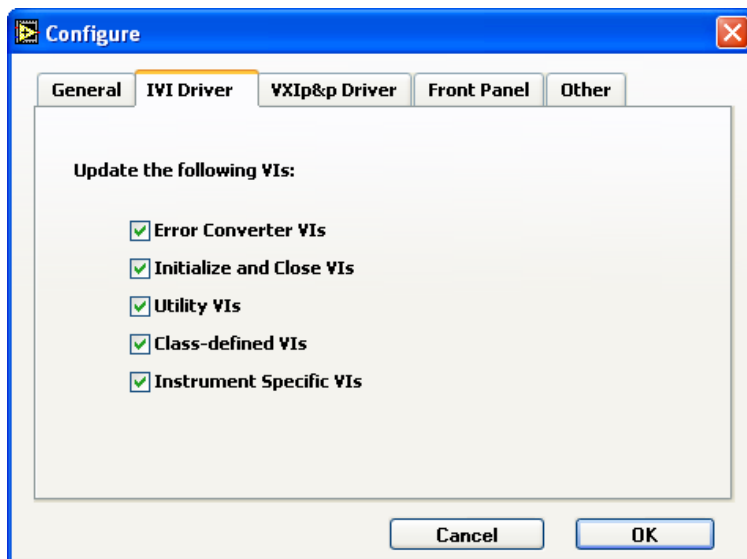

Figure 2. Configuration Window: IVI Driver Tab
2. Click **Configure** to launch the configuration window. The configuration window has five tabs: General, IVI Driver, VXIp&p Driver, Front Panel, and Other, as shown in Figure 2.
4. Select which VIs you want to update on the **IVI Driver** tab, as illustrated in Figure 2. For more information about how the utility updates VIs, refer to the *Class-Defined VIs* section and the *Instrument Specific Driver VIs* section. If you are updating a *VXIplug&play* driver, click the **VXIp&p Driver** tab.